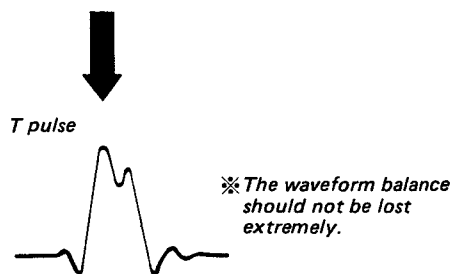

Fig. 5-69.
5. Change the input signal from 2T pulse to T pulse, and make sure the waveform balance is not lost extremely. (See Fig. 5-69.)